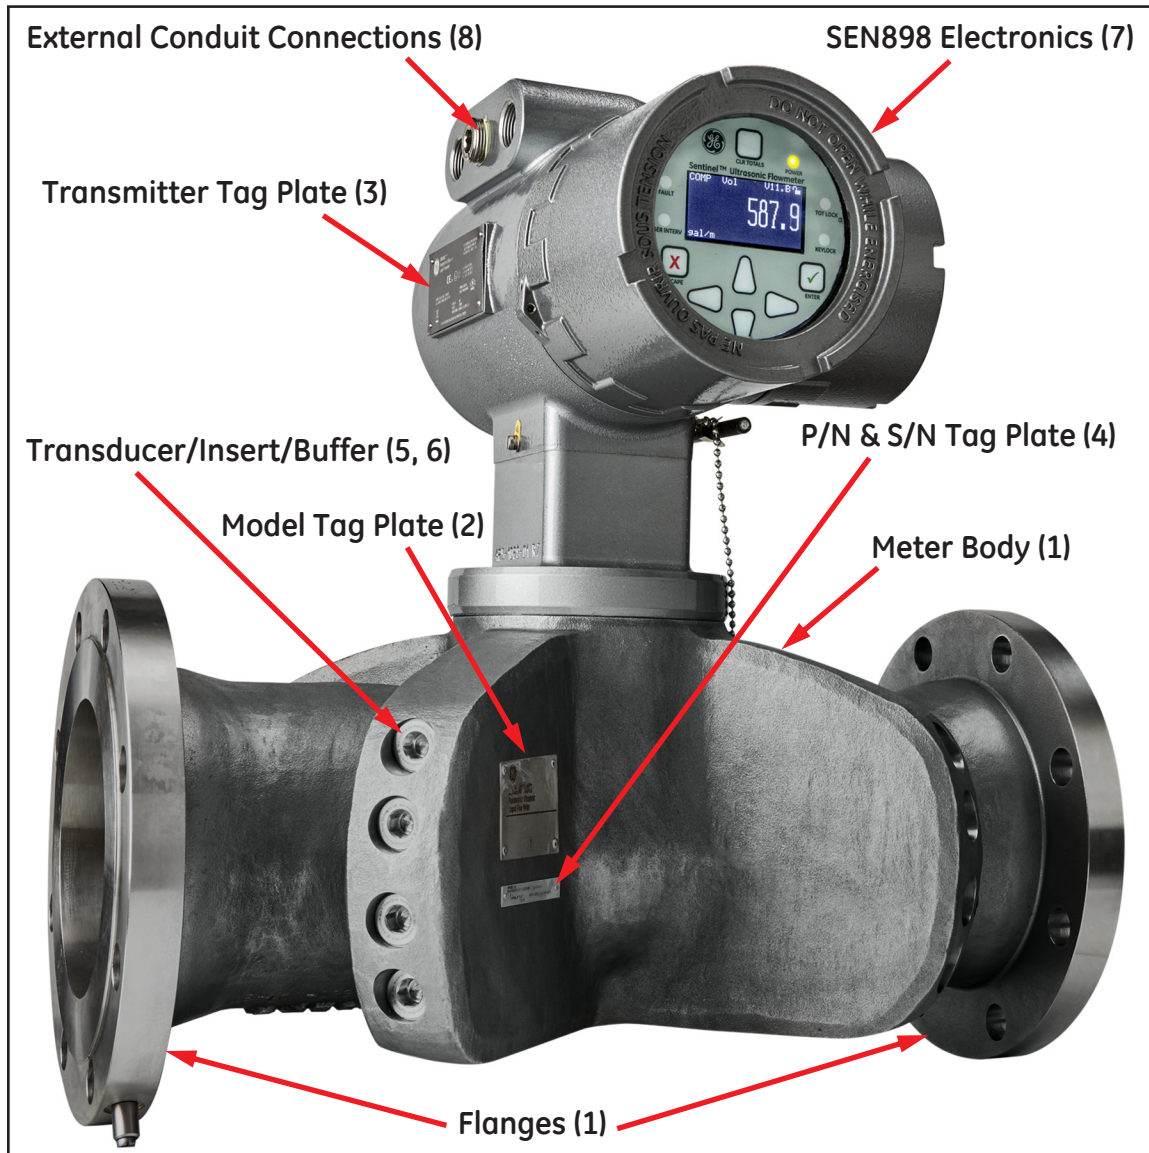

Figure 1: Typical Sentinel LCT8 Assembly
Figure 1 on page 3 shows a *Sentinel LCT8* system, with items 1-8 as described in Table 1 below.